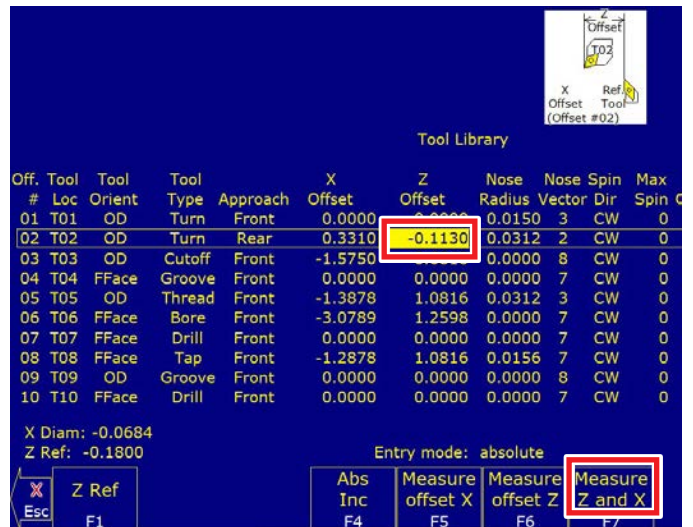

FIGURE 40
B. Click on Setup F1, Tool Offset F2, Highlight the tool / Axis Z, Measure Tool F2, Measure Z & X F7 (see Figure 40).